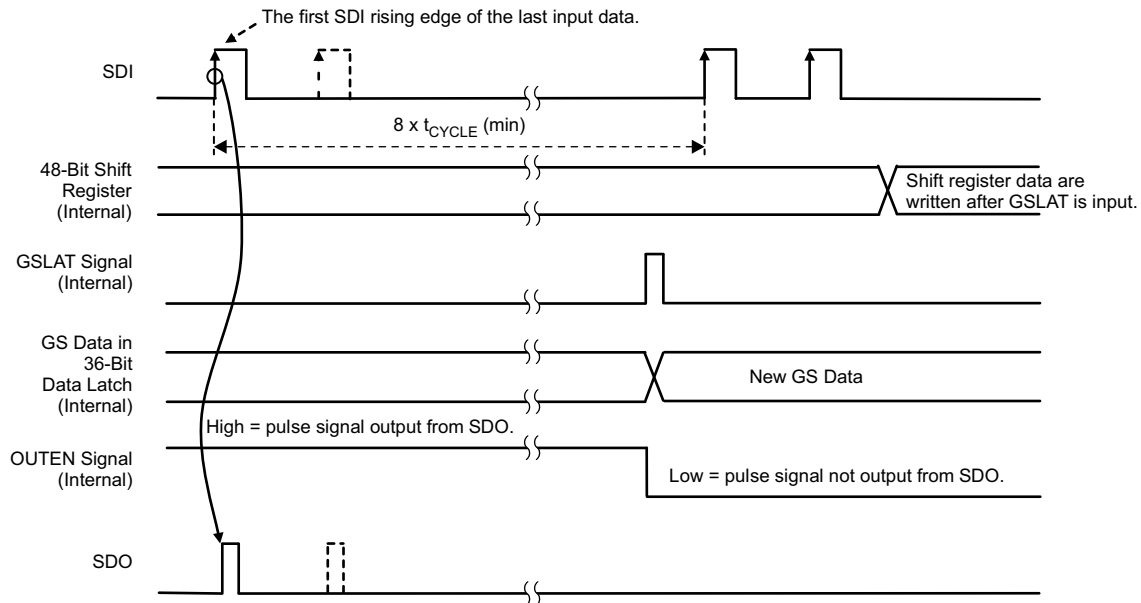

Figure 17. GS Data Latch Sequence (GSLAT)
Figure 17 shows the GSLAT timing.
7. The number of total bits is $48 \times N$. After all data are written, execute a GSLAT sequence as described in Figure 17 in order to copy the 36-bit LSBs in the 48-bit shift register to the 36-bit GS data latch in each device; PWM control starts with the written GS data at the same time.